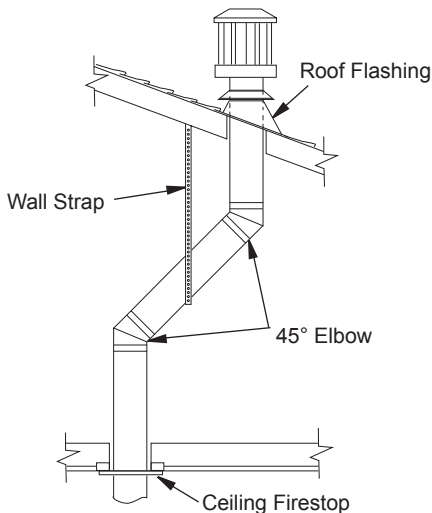

Figure 16 - Offset with Wall Strap and 45° Elbows
1. Determine route your vertical venting will take. If ceiling joists, roof rafters or other framing will obstruct venting system, consider an offset (see Figure 16) to avoid cutting load bearing members. Note: Pay special attention to these installation instructions for required clearances (air space) to combustibles when passing through ceilings, walls, roofs, enclosures, attic rafters, etc. Do not pack air spaces with insulation. Also note maximum vertical rise of venting system and any maximum horizontal offset limitations.
- Place flashing over pipe section(s) extending through roof. Secure base of flashing to roof and framing with roofing nails. Be sure roofing material overlaps top edge of flashing as shown in Figure 16, page 13. There must be a 1" clearance from vent pipe to combustible materials.